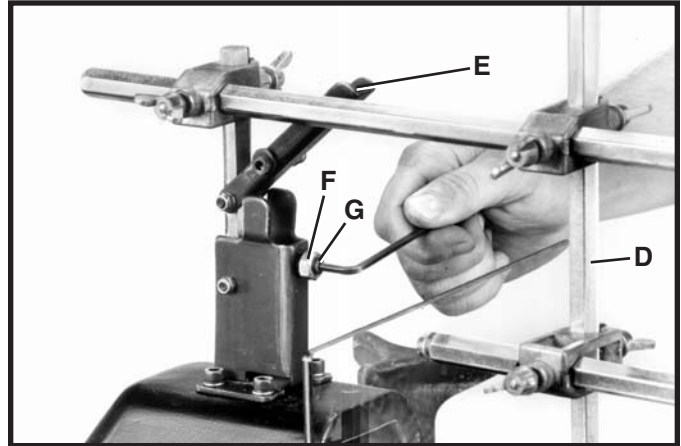
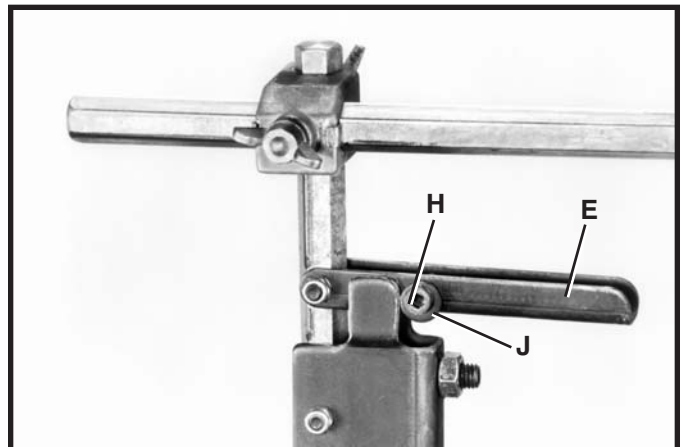

Fig. 53
Fig. 54
Lift up on guard locking handle (E) Fig. 53, loosen lock nut (F) and turn screw (G) until shaft (D) is 90 degrees to the table surface; then tighten lock nut (F).
Push down on guard locking handle (E) Figs. 53 and 54, until it locks in place as shown in Fig. 54. If the locking action is too loose or tight, loosen screw (H) and adjust cam washer (J), then tighten screw (H). Repeat this adjustment on the screw and cam washer located on the other side of guard locking handle (E).